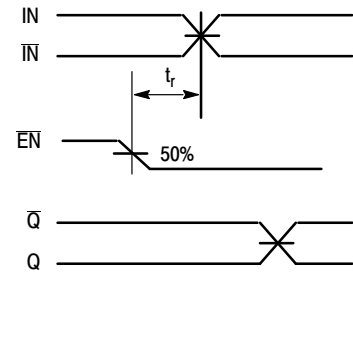

Figure 5. Release Time
9. The release time is the minimum time that  $\overline{EN}$  must be deasserted prior to the next IN/ $\overline{IN}$  transition to ensure an output response that meets the specified IN to Q propagation delay and output transition times (Figure 5).